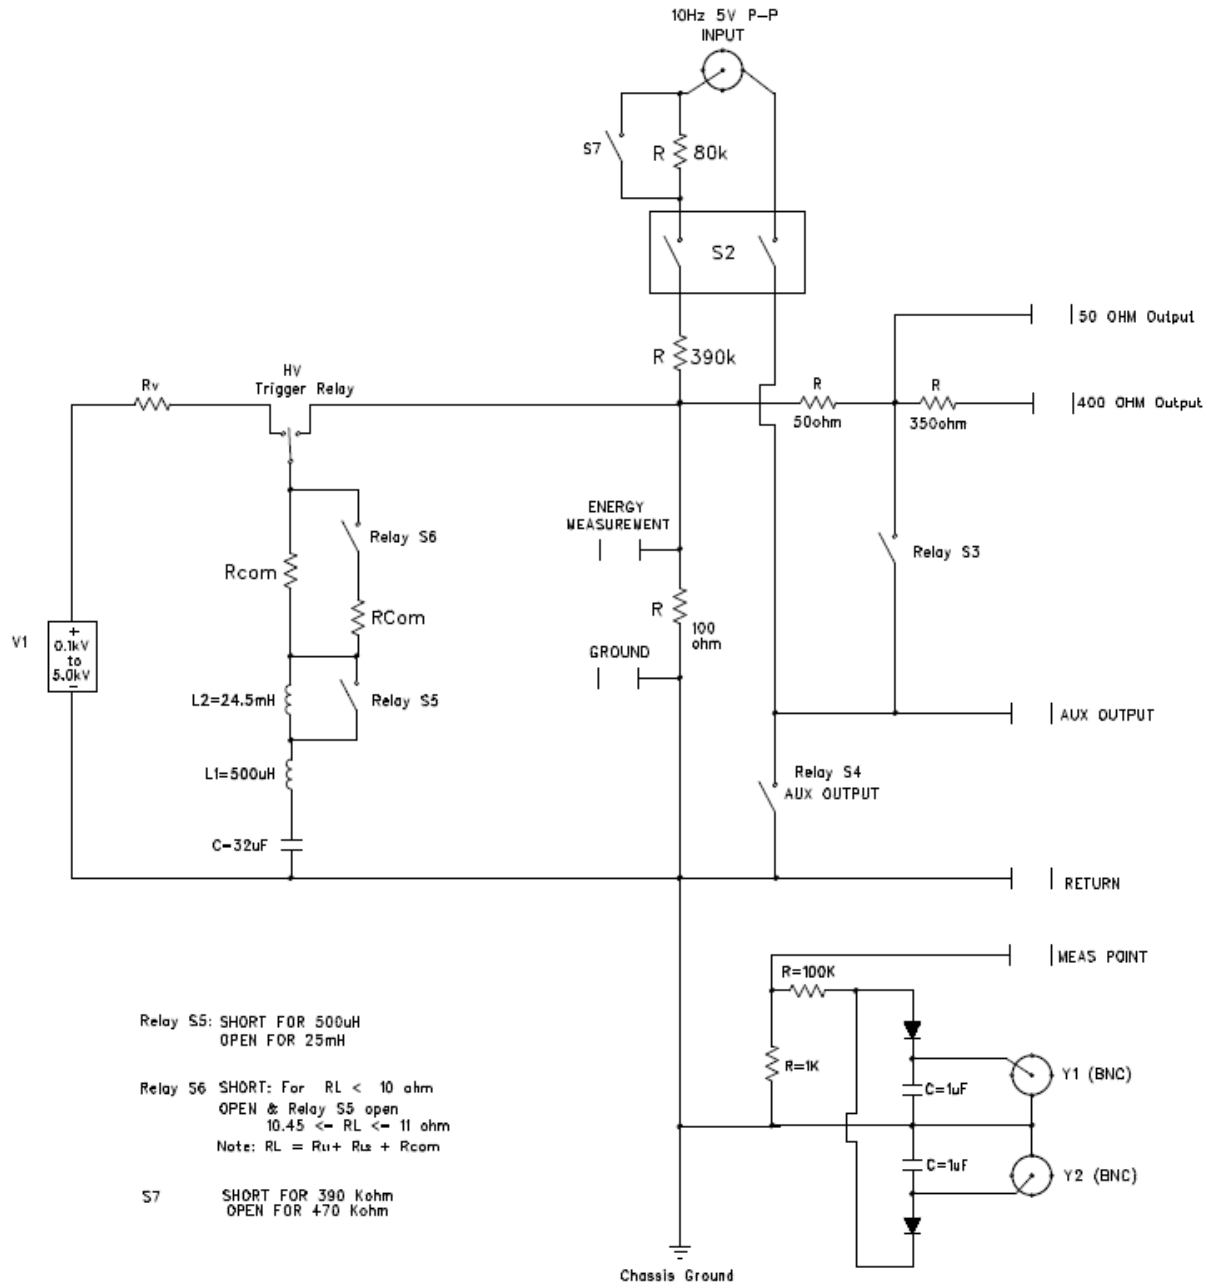

Figure 3. General High Voltage Electrical Diagram– MegaPulse D5-PF
The D5-PF Medical Defibrillation tester consists of two parts; the pulse generation portion and the measurement portion. Please refer to the general electric circuit shown in Figure 3 to show the function of the D5-PF.
3. Set the front panel switches depending on the type of test needed. Follow the front panel directions or see Figure 3 for the electrical diagram.